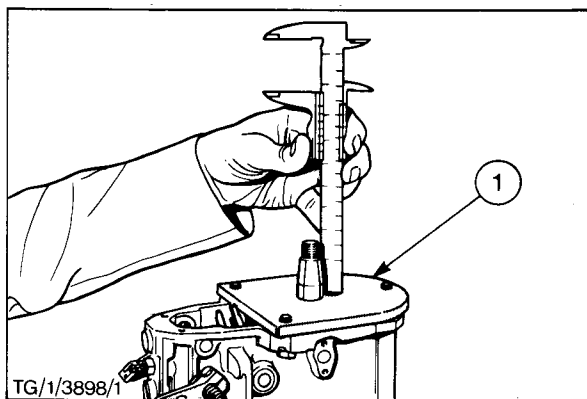

Fig. 73 - Measuring Dimension 'X'
15. Fit the centralising and measuring gauge (TOOL NO. HM 927) without a gasket over the end of the camshaft and secure it to the governor housing flange with three bolts (Fig. 73).